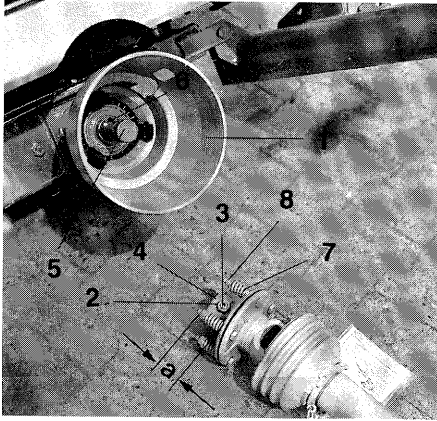

Fig. 10.13
- Slacken counter nut (Fig. 10.13/2) and pull out the threaded pin (Fig. 10.13/3).
- Push on the connecting yoke (Fig. 10.13/4) after having applied grease to the gearbox input shaft (Fig. 10.13/5).
**Please ensure that the key (Fig. 10.13/6) is completely guarded!**
- Secure the special pto shaft against axial movement. This is done by tightening firmly the threaded pin with an Allen key and secure with counter nut (Fig. 10.13/2).
2. Relieve spring pressure (Fig. 10.13/7) by slackening the nuts (Fig. 10.13/8).